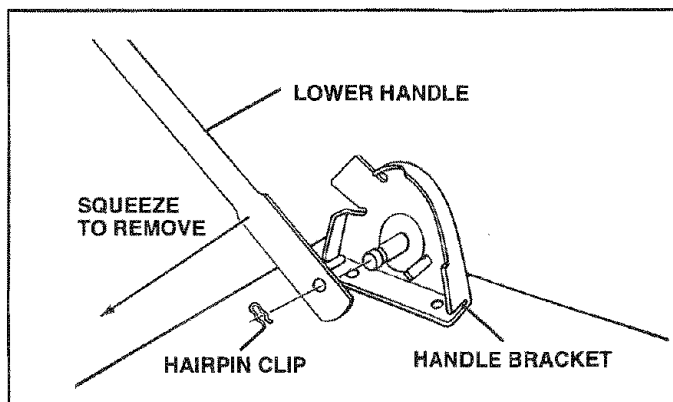

FIG. 13
- Disconnect the lower handle from the handle brackets (See Fig. 13).